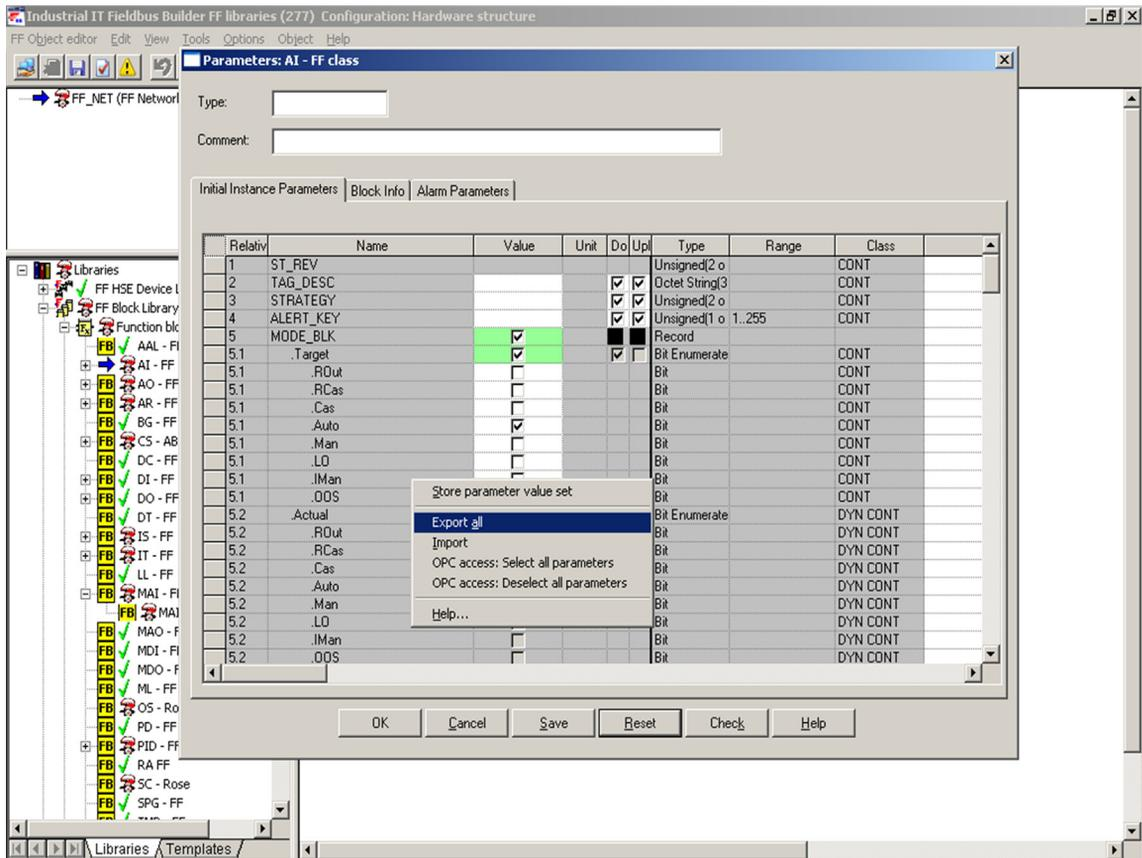

Figure 6. Exporting Locally Stored Parameter Value Sets
- Right-click and select **Export** from the context menu (Figure 6).